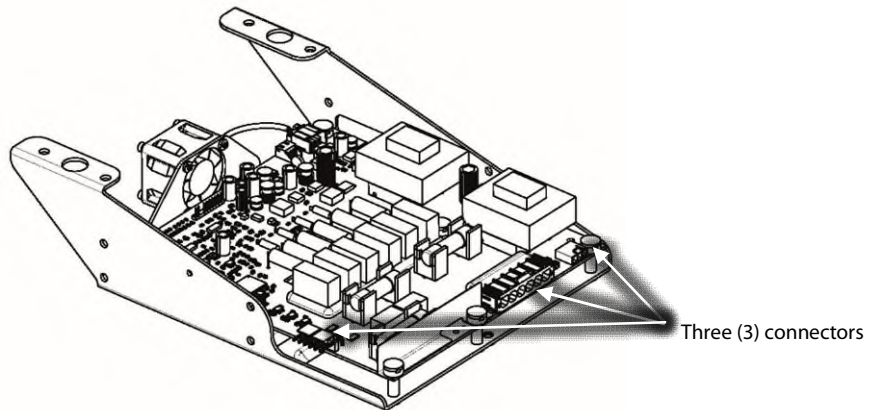

Figure 5 – Soft Start Harness Removal
12. Unplug the cable connectors from the Soft Start. Refer to Figure 5 (Soft Start Harness Removal).